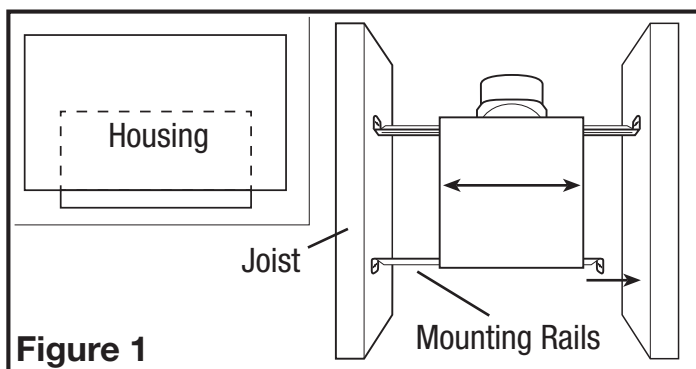
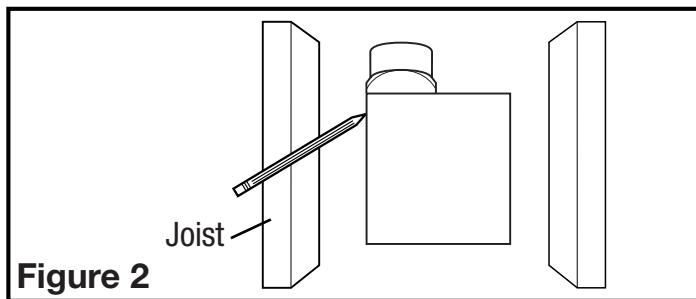

Figure 1
Figure 2
1. Install the rails into the mounting channel on the housing. Center the mounting channel in the slots on the housing, then from inside the housing tighten the mounting channel screws so the channel is securely in place. Position the housing next to the joist. Line up housing so that it will be flush with the finished ceiling. Secure the ends of the rails with screws or nails (not included) to the joists and slide the housing into the final position (**Figure 1**).
1. Set housing in position between the joist and trace an outline onto the ceiling material (**Figure 2**). Set housing aside and cut opening, being careful not to cut or damage any electrical or other hidden utilities. Install the rails into the mounting channel on the housing. Center the mounting channel in the slots on the housing, then from inside the housing tighten the mounting channel screws so the channel is securely in place. Position the housing in the previously cut hole so that it is flush with the finished ceiling. Secure the ends of the rails to the joists (**Figure 1**).